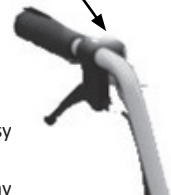

Fig. 4
3. Set the run/stop lever into the "RUN" position. (Fig. 4)